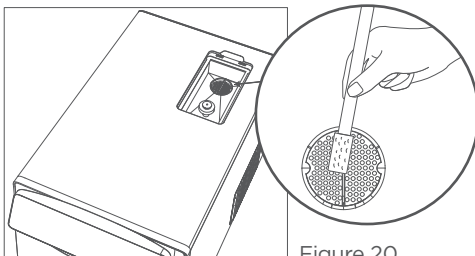

Figure 20
- 3.2.3 Remove the filter and clean it with a brush (see Figure 20).